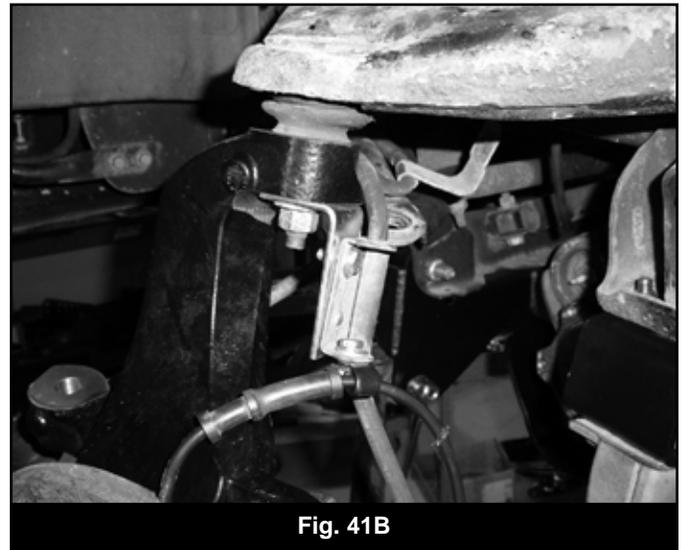

Fig. 41B
70. Narrow Track Knuckle Kits Only: Route the ABS wire to the factory brake line bracket that was just attached to the new "L" bracket. Attach the ABS line to the factory bracket (Fig 41B) with a provided wire clamp and 1/4" x 3/4" bolt, nut and washer (BP 572). Torque hardware to 10 ft-lbs. From there run the ABS line along the main brake line and reattach to the connector at the frame. Zip tie the ABS line to the brake line.